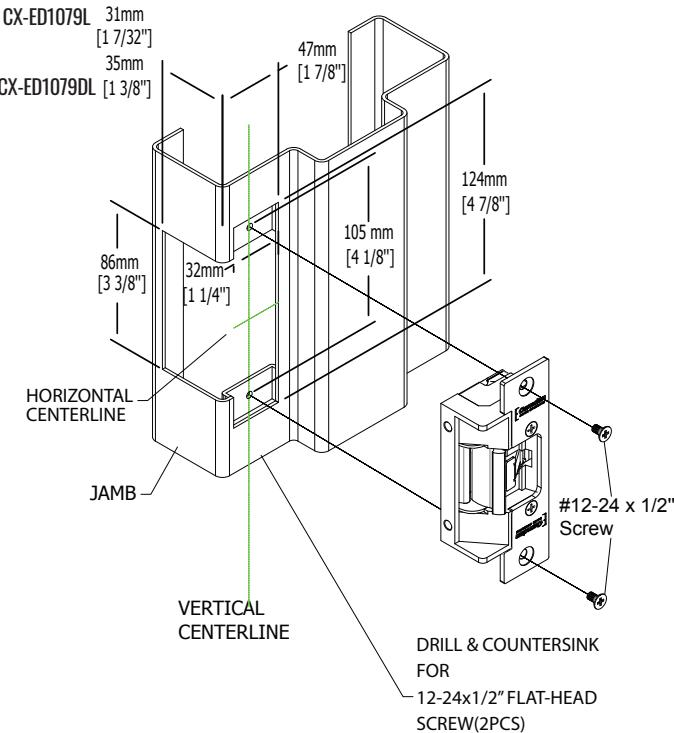

Figure 4.1
- Using a chisel, router, or jamb saw, cut out the mortise in the jamb along the marked outline. The size of the mortise should match the size of the electric strike. Make sure to cut to the depth specified in figure 4.1.
- Make sure that the door jamb/gate has an appropriate cutout to accommodate strike assembly. If not then, refer to the figure 4.1 and cut the jamb if required.